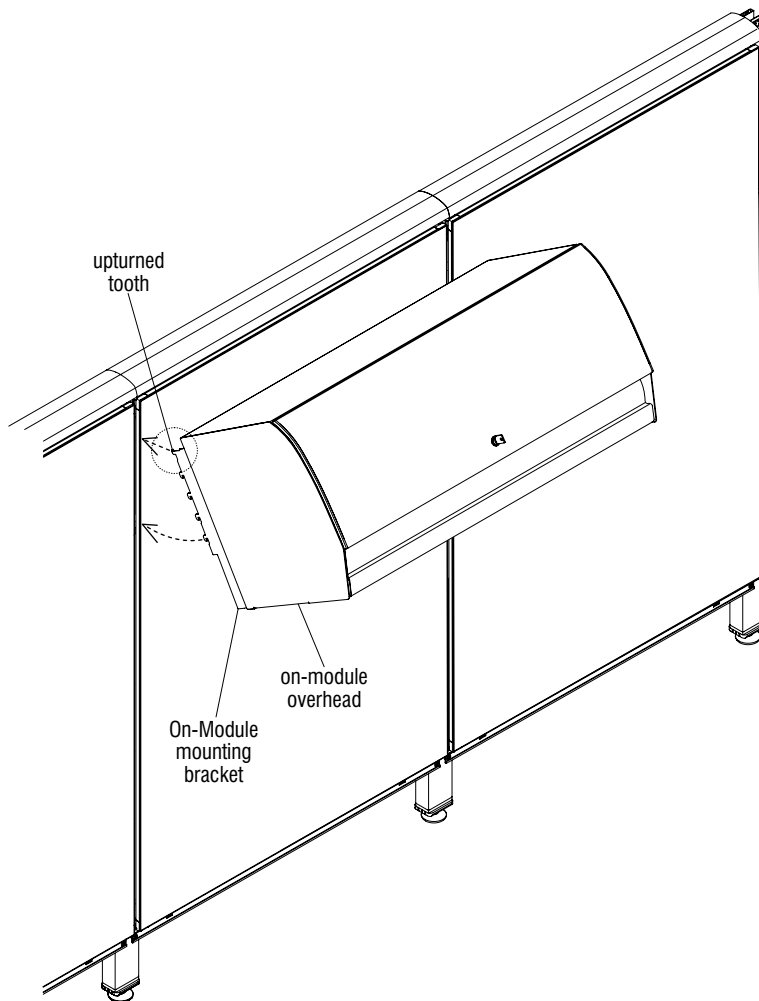

Figure 2
1. The On-module mounting brackets have integral teeth that engage the vertical furniture hanging slots in the panel frame. Locate the on-module overhead unit at the height that is desired on the panel. Engage the upturned tooth of the top hook (circled) into the panel frame by holding the cabinet bottom out about 30°, then rotate the unit to engage all the remaining teeth. When all teeth are engaged, press down on the cabinet to lock in place (Figure 2).